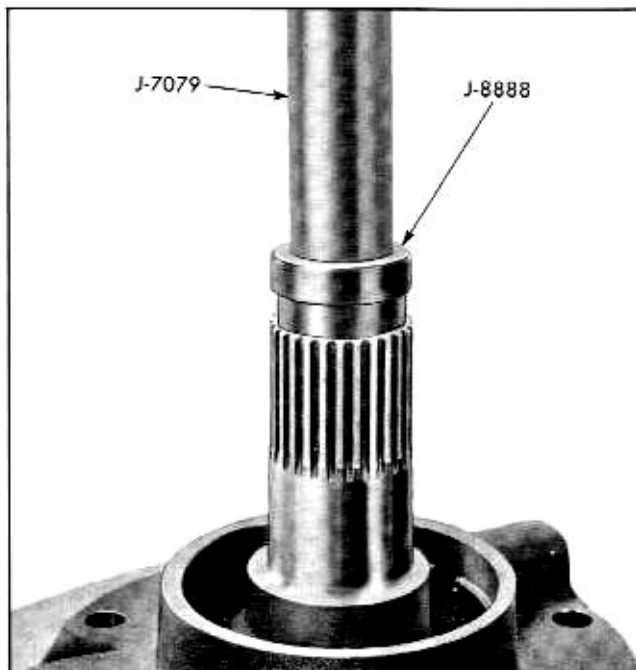

Fig. 4-45 Install New Bushing
1. Install new bushing using tool J-8888 with J-7079 handle (Fig. 4-45).